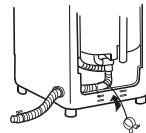

Figure 5
4. Extend the drain hose from the other side. Fix the drain hose onto the base frame with the drain hose frame. (As indicated in Figure 5)